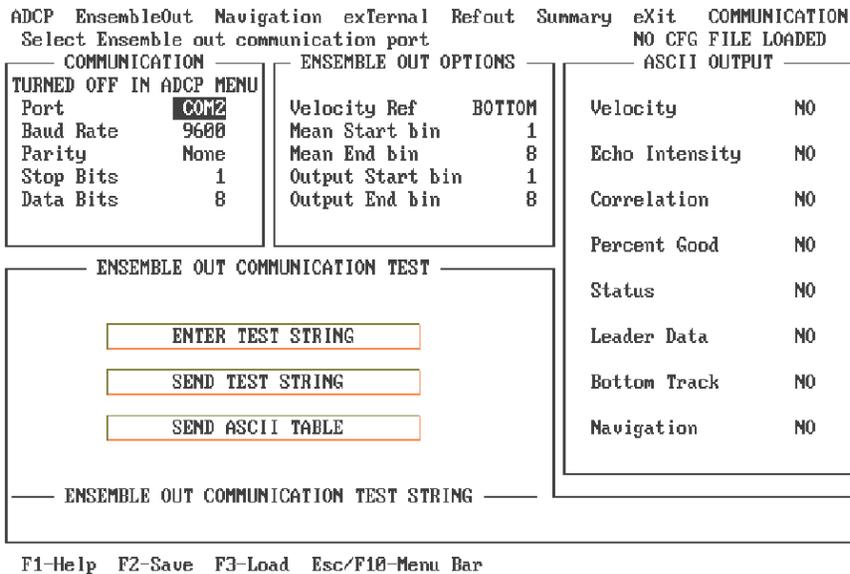
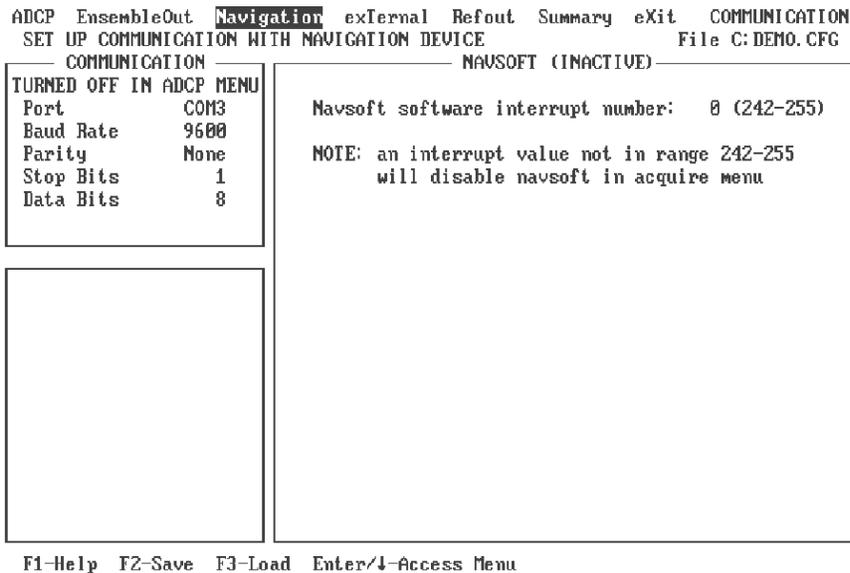

Figure 5. TRANSECT Communication - Ensemble Out Menu
Figure 6. TRANSECT Communication - Navigation Menu
- i. If you needed to communicate to an **ENSEMBLE-OUT** **aE** (Figure 5), **NAVIGATION** **aN** (Figure 6), **EXTERNAL SENSOR DEVICE** **aT** (Figure 7), or **REFERENCE-OUT DEVICE** **aR** (Figure 8), the procedure would be similar to the one used for ADCP communications. For now, press **aS** to display the **SUMMARY** submenu (Figure 9), which shows the communication settings to all system devices. If necessary, you could make changes from here.